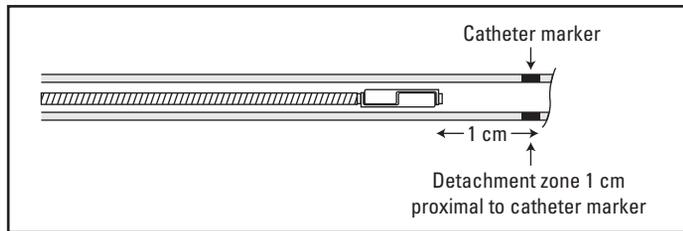

Figure 7. Advancing Interlock - 35 Fibered IDC Occlusion System to Pre-Release Position
12. Maneuver the Interlock - 35 Fibered IDC Occlusion System under fluoroscopy until the coil detachment zone is approximately 1 cm proximal to the catheter tip (Figure 7).